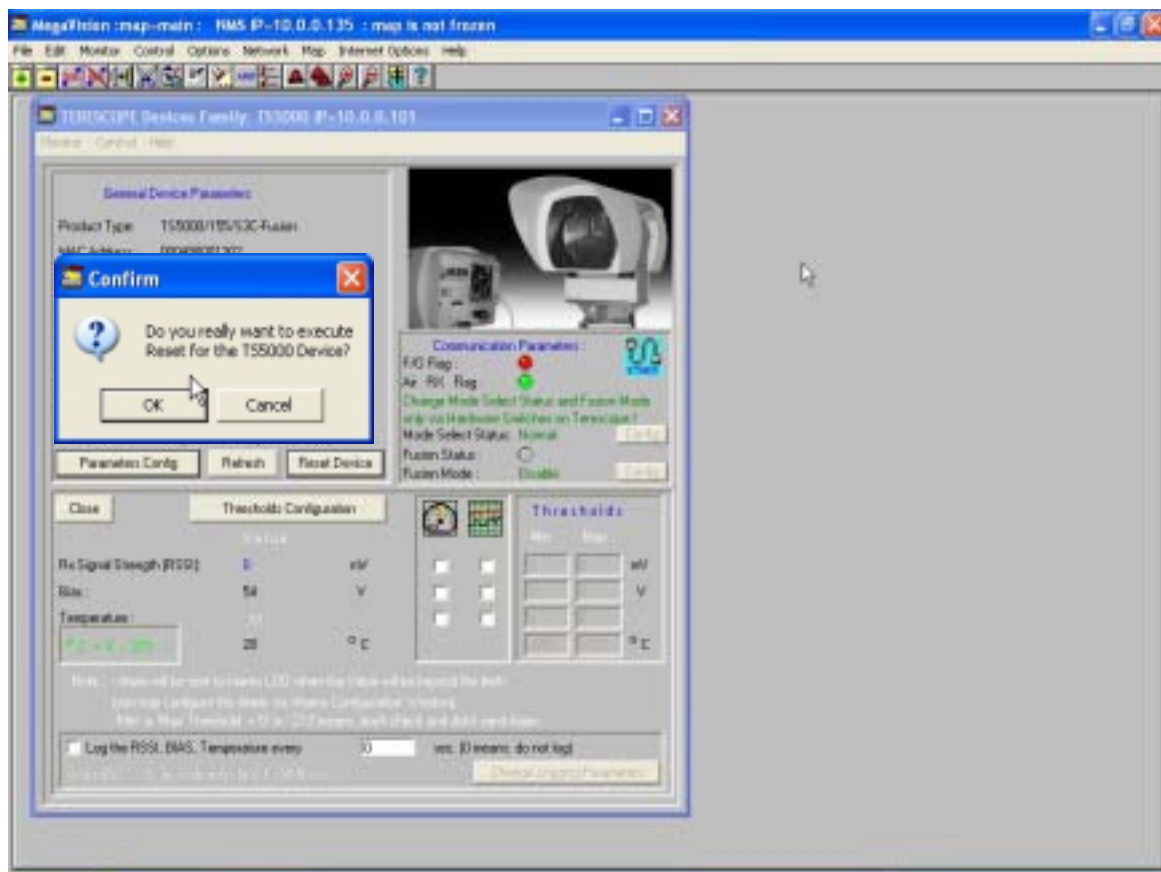

Figure 11: Confirm Window
13. Click the button **Reset Device** to reset the TereScope. When the **Confirm** window (Figure 11, page 18) opens, press the button .